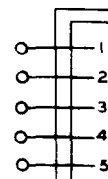

Fig. 6—234B Plug
2.10 **234B:** The 234B plug (Fig. 6) is designed to be used as a service observing plug for totally solderless wrap 150- and 183-type laminated terminal strips.